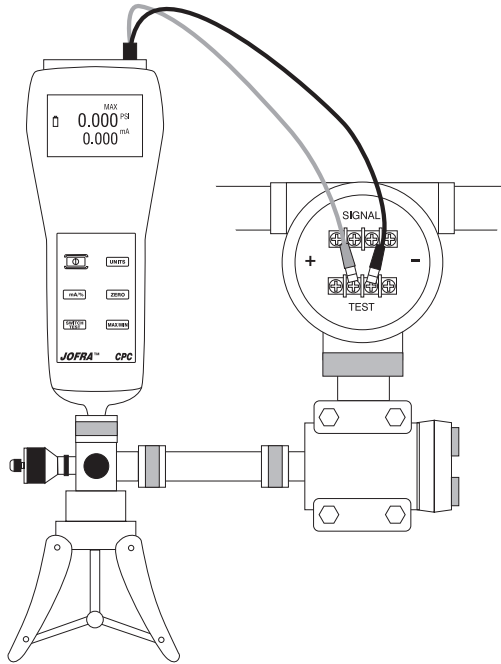

Figure 2
1. Connect the calibrator and the pump to the transmitter as shown in the setup in Figure 2.